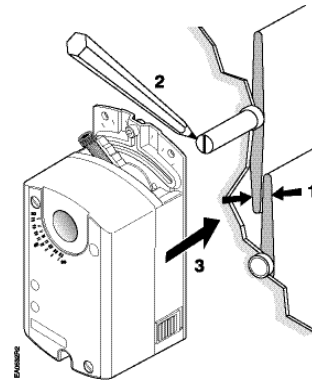

Figure 6. Mounting Actuator to Damper Shaft.
**NOTE:** The GDE/GLB actuator comes with a factory installed 1/2-inch shaft guide. If shaft size is 1/2-inch, proceed with Figure 6.
3. Proceed to Figure 6.
2. Mount actuator to shaft per Figure 6.